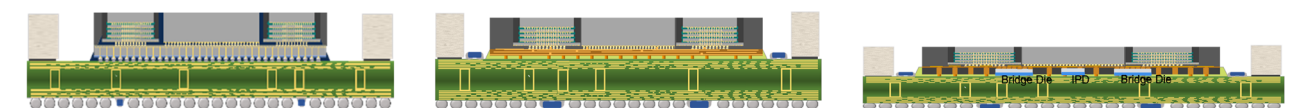

Figure 1: a) 2.5D TSV (silicon interposer), b) HDFO (S-SWIFT™) RDL interposer, c) Bridges (S-Connect) (RDL+ Bridge (s)).
(MCM), which has been in production for decades, with modern designs trending to higher silicon and passive density on the substrate. The second option for higher-density integration approaches is to create modules that integrate the die or chiplets, which needs ultra-fine-line routing for die-die interfaces. Today, these are (A) modules based on silicon interposers – 2.5D through silicon vias (TSVs), (B) modules based on high-density fan-out (HDFO) multi-layer redistribution layer (RDL) approaches, or (C) modules with bridges as shown in Figure 1.